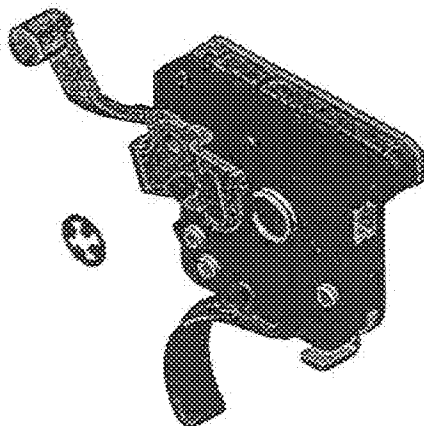

Figure 10
9. Insert the safety pivot pin through the holes in the bolt stop release, trigger housing and safety and push it until the shoulder contacts the left hand side plate of the trigger housing as shown in Figure 10. The bolt stop release pin will be pushed out of the trigger housing.